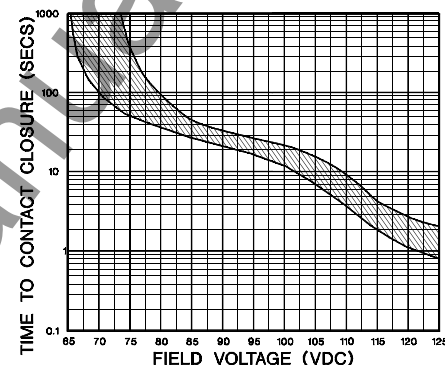

Figure 2. Inverse Time Delay Characteristic Curve
Inverse time delayed, fixed setting. Trip range from no trip at 65 Vdc to <1 second at >120 Vdc (see Figure 2 for curve).
If the regulator output voltage exceeds  $65 \pm 2$  Vdc, the regulator automatically makes a connection across terminals A1 and A2 via an optically-isolated triac device. This occurs after a time delay which is inversely proportional to the magnitude of the regulator output over-voltage condition up to approximately  $105 \pm 5$  Vdc (See Figure 2). Beyond this point, the field voltage is removed at a much faster rate. To avoid tripping due to the voltage provided by a separate current boost circuit, voltage measurement excludes any additional boost voltage term. The overexcitation circuit is reset by reducing the regulator input voltage to less than its buildup value for 5 seconds.
Overexcitation detection provides a single-pole solid-state contact closure across terminals A1 and A2, should the regulator output voltage exceed  $65 \pm 2$  Vdc for a sufficient time. For voltage above  $105 \pm 5$  Vdc, there is a second (shorter) inverse time curve. The total inverse-time-delay curve is shown in Figure 2.
- C. Overexcitation operation can be tested if the output voltage exceeds the voltage-time curve of Figure 2, using a supply and indicator taking no more than 150 mA, connected to A1, A2. Be aware that filament resistance is low when cold.